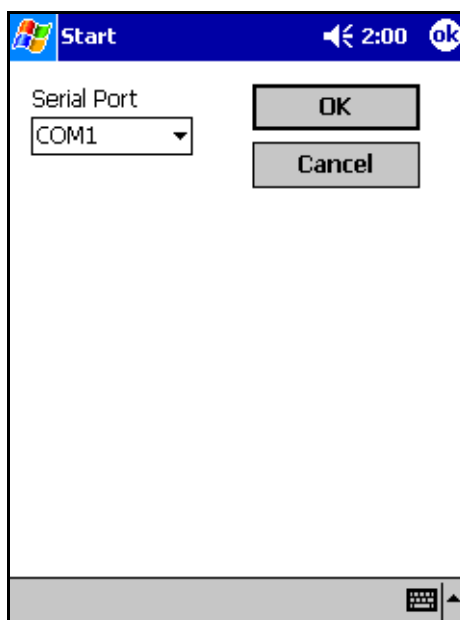

Figure 3-3. iCFR Serial Port Selection Menu.
- 5 The first time the program runs, it will ask for the location of the iCFR as in Figure 3-3 below.